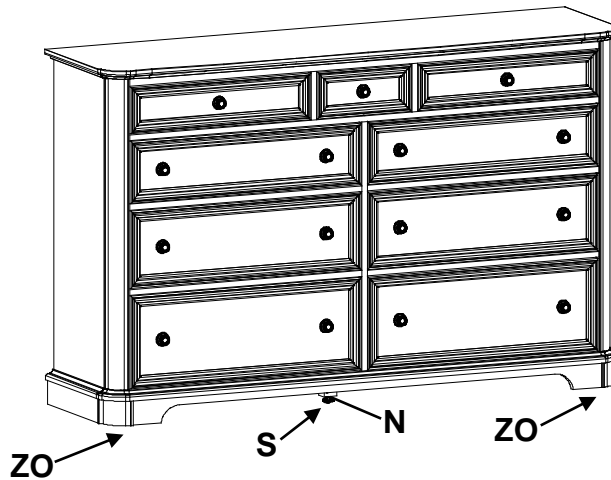

Fig. 4
4. Place the unit at its final destination. Rotate the Small Adjustable Glides (ZO) found at the corners of the unit and the Adjustable Glide with Hex Nut (S) at the bottom of the Assembled Foot (N) until the unit is level. It is also important the Assembled Foot (N) supports the weight of the dresser. The Adjustable Glide with Hex Nut (S) on the Assembled Foot (N) can be adjusted using a 1/2" wrench. See Figure 4.